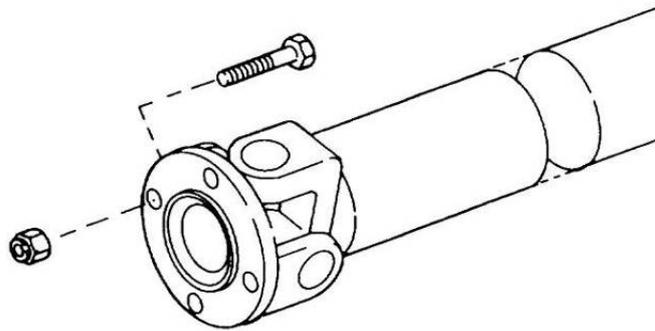

Figure 100 Removal of the Propeller Shaft to Rear Axle Flange
- c. Remove and discard the four bolts and locknuts securing the rear propeller shaft flange to the rear differential (Figure 100) and lower the propeller shaft.